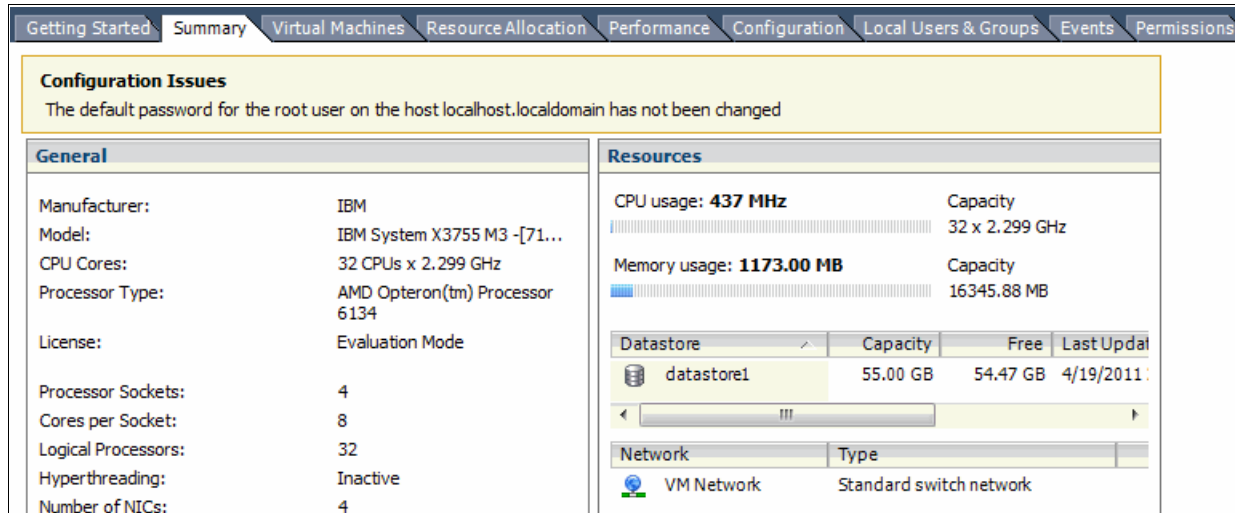

Figure 2-122 Summary tab in Virtual Center
1. After the installation of ESXi 4 update 1, we need to install Virtual Center to verify that the multipathing is working. In Virtual Center, click the **Summary** tab, and on the right side of the panel you will see the datastore, as shown in Figure 2-122.